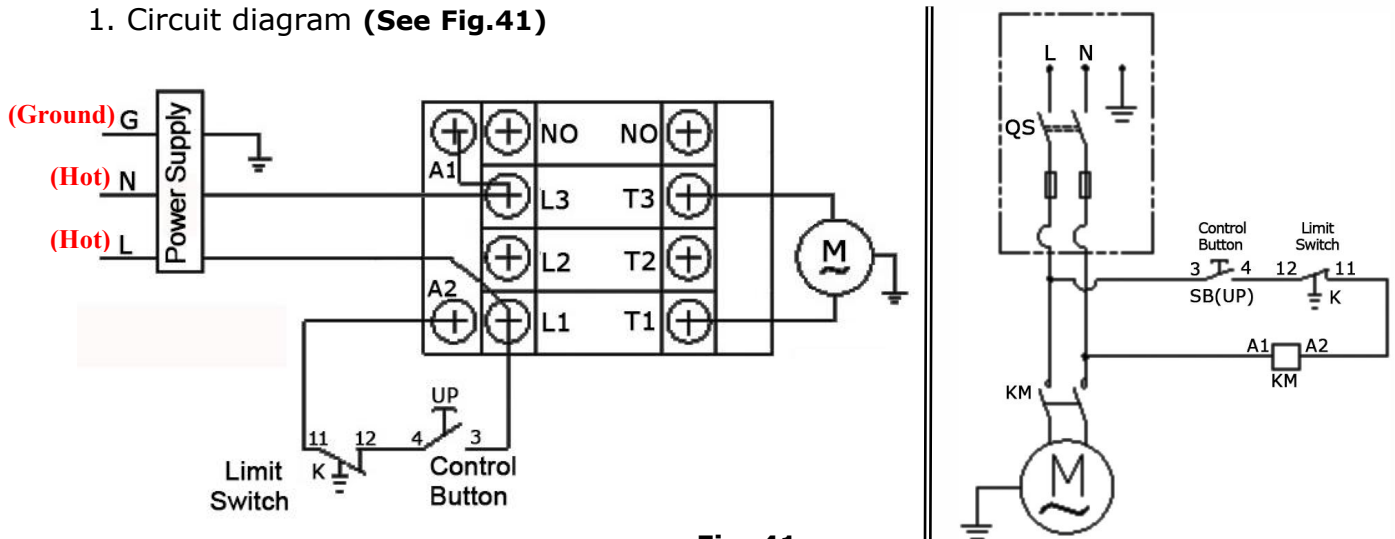

Fig. 41
1. Circuit diagram (See Fig.41)